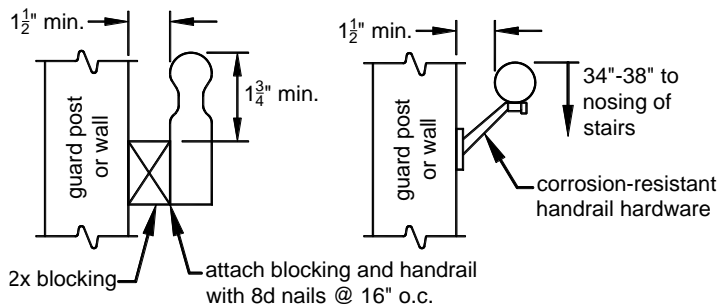

FIGURE 38: HANDRAILS
- Handrails shall be attached to a stair guard or exterior wall acting as a barrier as shown in see FIGURE 38.